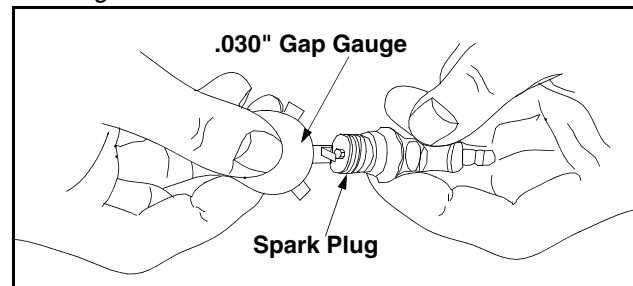

Figure 16
- Clean the spark plug and reset the gap to .030" at least once a season or every 50 hours of operation. See Figure 16. Spark plug replacement is recommended at the start of each season. Refer to engine parts list for correct spark plug type.